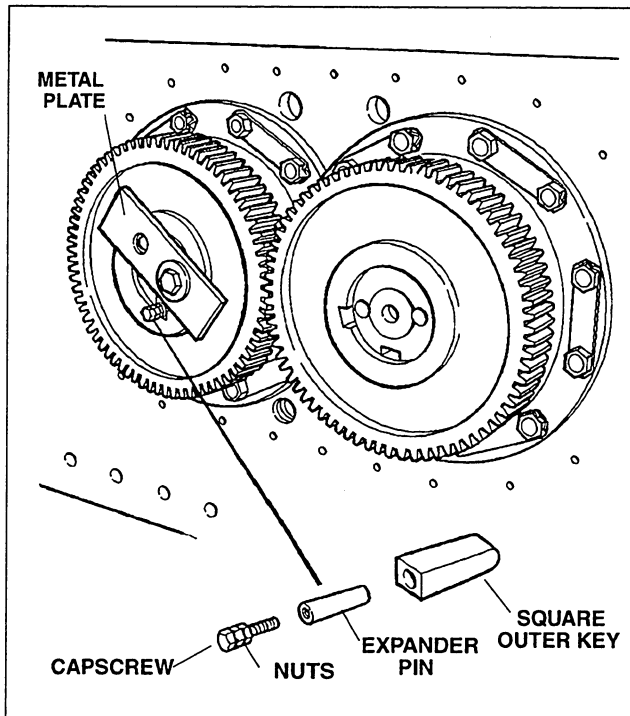

Figure 4-17. Installing Hugger Key
B. Install a capscrew (with two nuts threaded on it) into the threaded end of the expander pin as shown in Figure 4-17.